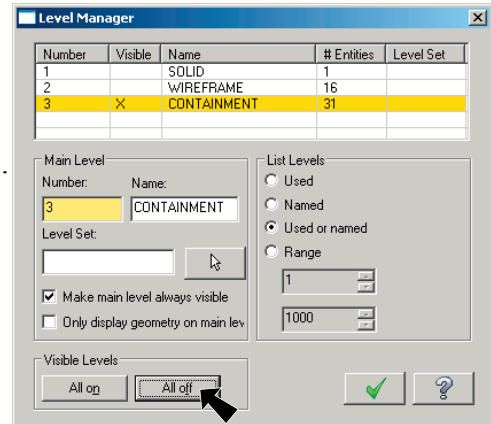

Fig. 41
Step 2. Turn off **SOLID** and **WIREFRAME** levels. Click **All off** button. Click OK  when done, **Fig. 41**.